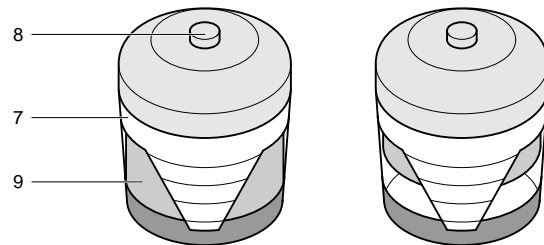

Fig. 5.3 Vacuum indicator
1. Release the snap clips (1) and remove the dust trap (2). Clean the trap.
2. Remove the element (4) from the housing (5).
3. Reassemble in reverse order of dismantling. Make sure the vacuator valve (6) points down.
5. Reset the vacuum indicator (Fig. 5.3).